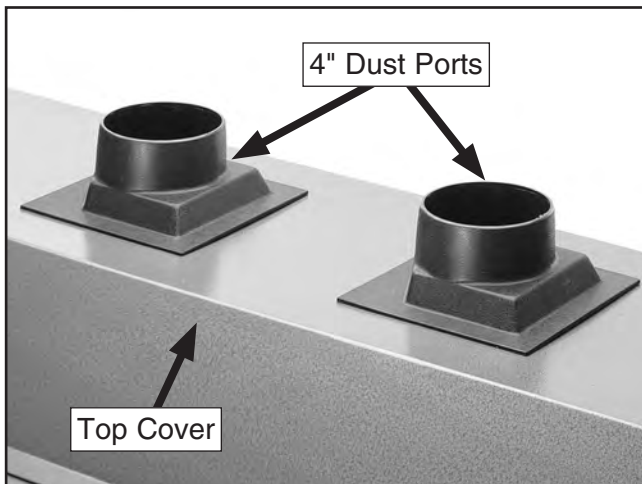

Figure 13. Dust ports attached to top cover (G1066R shown).
1. Attach (2) 4" dust ports to top cover with double-sided tape, as shown in **Figure 13**.